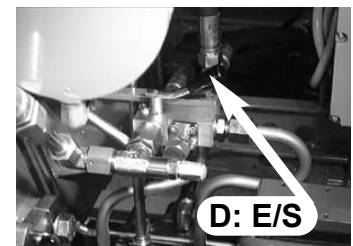

fig. 20b
- Position lever **D** of oil diverter crane-outriggers (⊗ - E/S) on **E/S**. Fig. 20b
- Position lever **D** of oil diverter crane-outriggers ( - **E/S**) on **E/S**. Fig. 20b